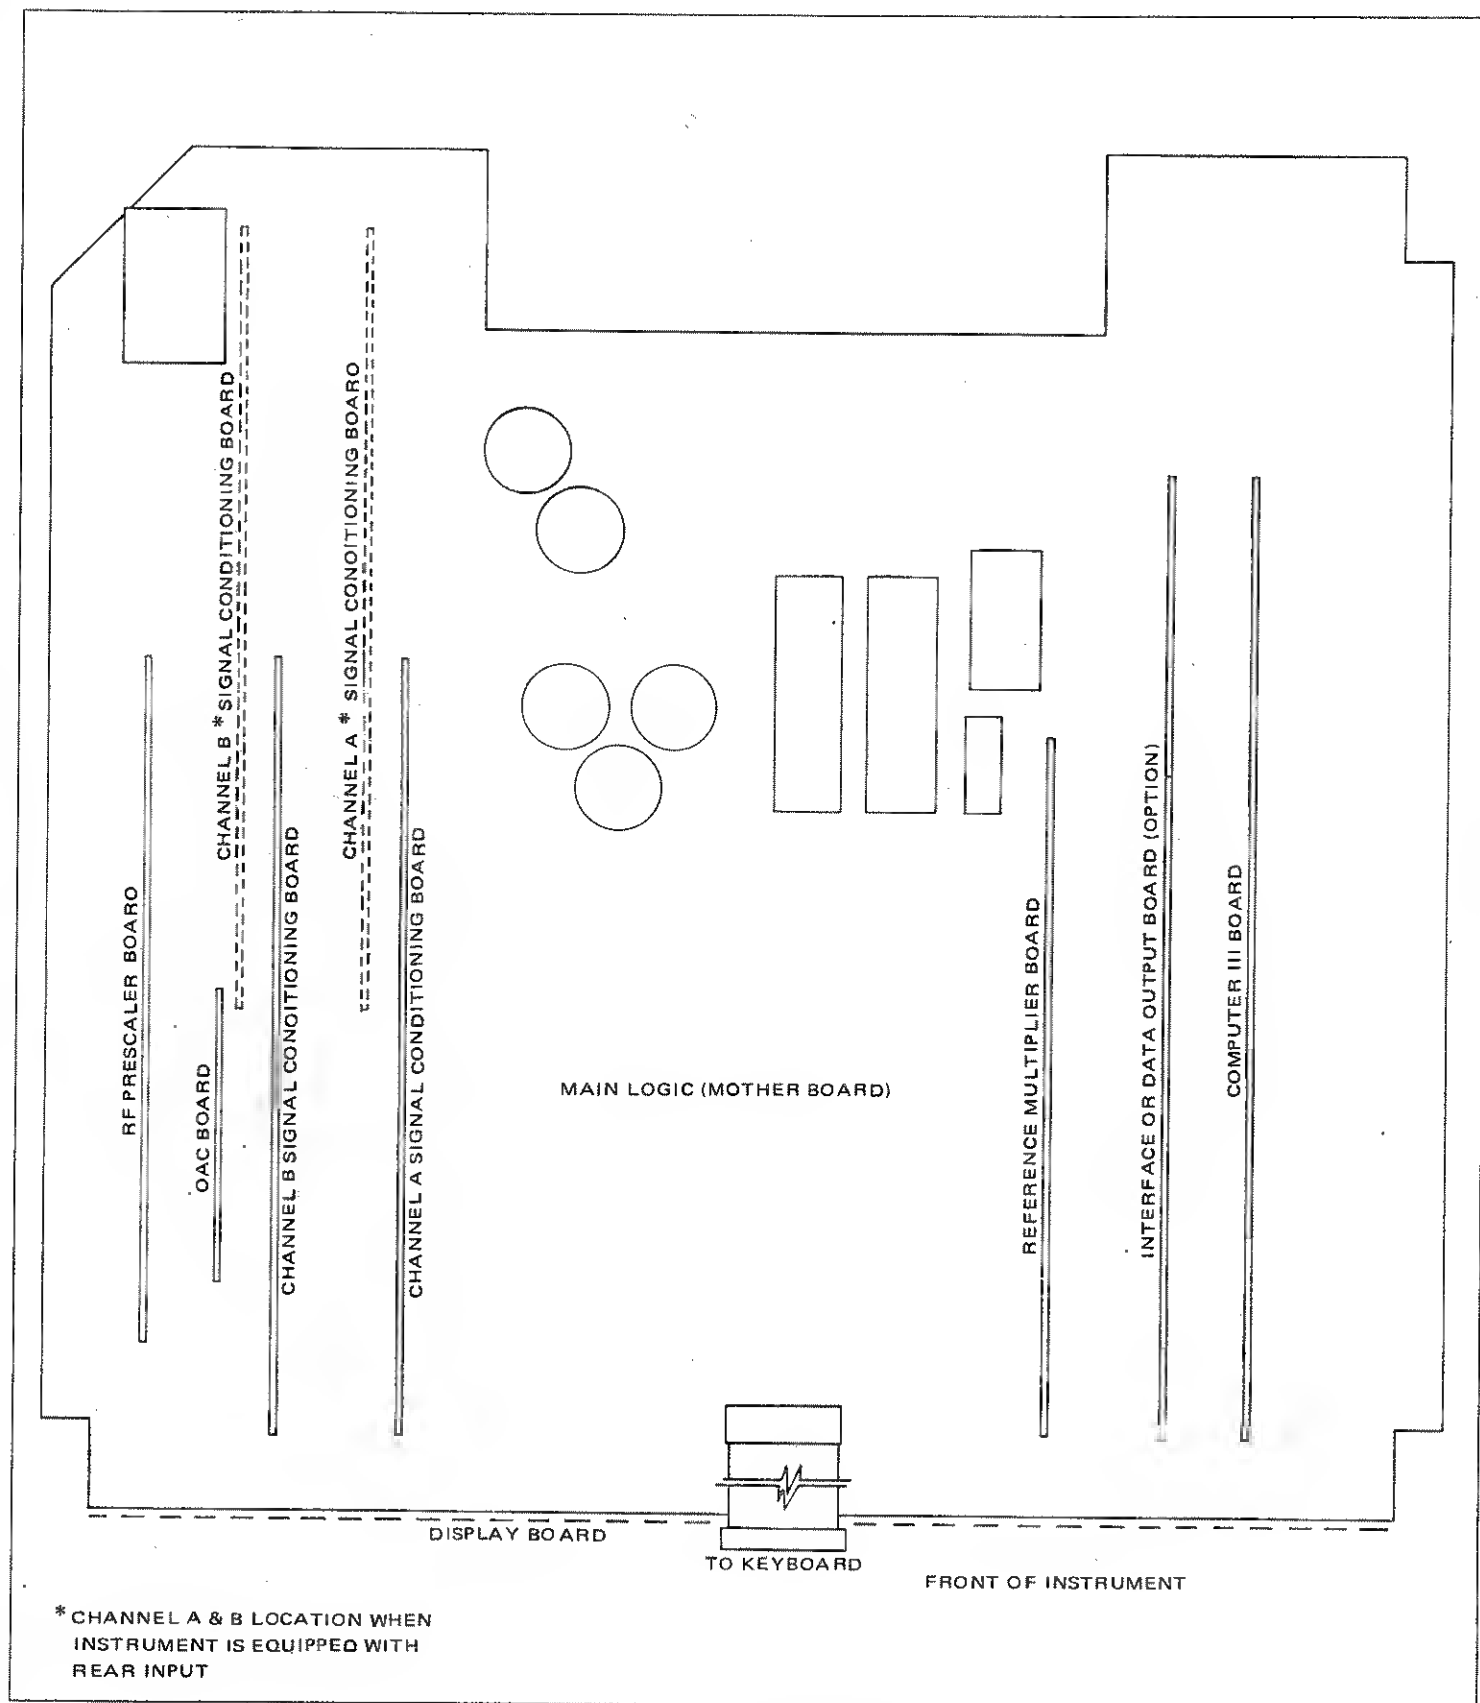

Figure 1.2 - Plug-In Board Locations
1.3.2 The standard instrument (figure 1.2) consists of the mainframe (mother board) with five plug-in boards and the display board. The mainframe is mounted next to the top cover of the instrument with the component side of the board facing down. On the board is mounted most of the logic components, the reference oscillator and the power